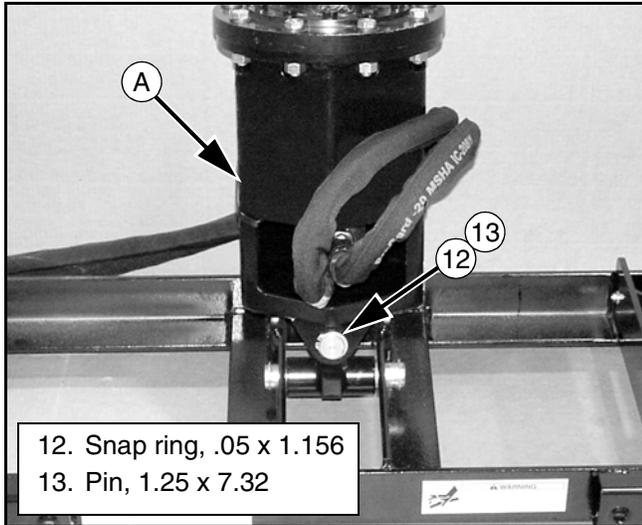

Figure 17. Skid Steer
2. Lower the head assembly (A) onto the backplate as shown in Figure 17.
3. Install the clevis pivot pin (13) and snap rings (12).